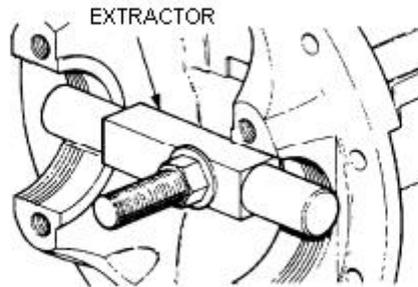

Figure 234 Removing the Pinion Shaft Inner Bearing Cup
- e. Using the extractor (Table 3, Serial 59), remove the inner bearing cup from the differential carrier and retain the shims under the bearing cup for further use (Figure 234).